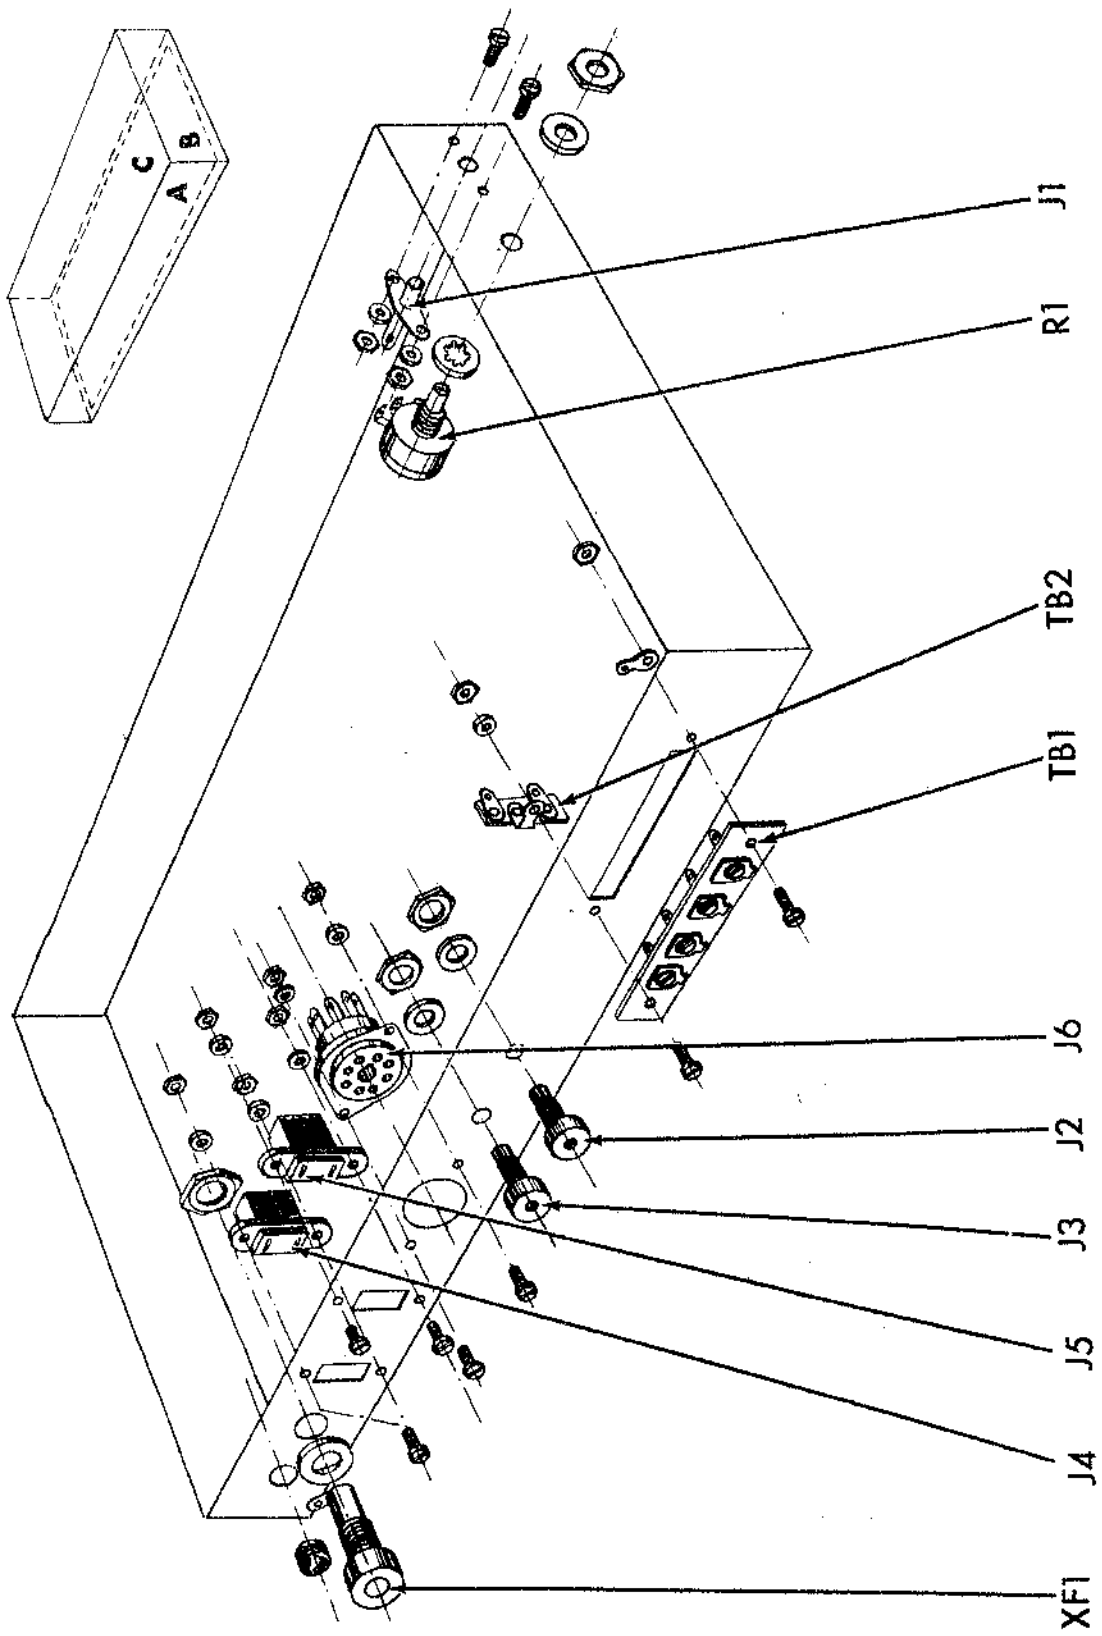

Fig. 1
Fig. 1 shows the chassis laying bottom down, in which position the interior would actually be hidden from view. For the purpose of showing the mounting procedures clearly, Fig. 1 has been drawn as if the chassis were transparent. The long and short sides of the chassis to which parts are mounted have been designated side A and side B respectively, and the top of the chassis has been designated side C (see insert drawing).
1. ( ) Fig. 1, side A. Mount the four post terminal board (SPEAKER CONNECTIONS) TBI on the outside of the apron. A two post terminal strip TB2 and a small ground lug are mounted on the inside as shown. Use two #6-32 X 1/4 screws, two #6 hex nuts and one #6 lockwasher.
2. ( ) Fig. 1, side A. Mount the two pin jacks (METER) J2, J3, with the hardware supplied on same. Remove the nut and the fibre washer from the threaded portion of the jack. Pass same thru hole provided and attach the fibre washer and hex nut on the inside of the chassis. The small shoulder on the fibre washers should seat itself into the mounting hole. If the assembly is properly made the lug on the jack will be insulated from the chassis.
3. ( ) Fig. 1, side A. Mount the octal socket, J6, (PREAMP POWER) as shown. Orient the socket so that the small notch (keyway) in the center of the bakelite section of the socket faces the meter jacks. This socket should be in-
4. ( ) Fig. 1, side A. Mount the convenience outlets J4, J5 (117VAC) inserting them from the inside of the chassis apron. To mount each outlet, use two of each of the following: #6-32 X 1/4 screws, #6 hex nuts and #6 lockwashers.
5. ( ) Fig. 1, side A. Mount the fuseholder XF1, as shown. Secure the fuse holder with the large rubber washer and the largest nut supplied with the kit.
6. ( ) Fig. 1, side A. Mount the 3/8" rubber grommet as shown. The groove around the rim of the grommet should fit over the rim of the hole. Squeeze grommet into oval shape to insert into hole, and work groove over the rim of the hole with a small screwdriver.
7. ( ) Fig. 1, side B. Mount the input jack, J1 on the inside of the chassis. Use two of each of the following: #6-32 X 1/4 screws, #6 hex nuts and the #6 lockwashers.
8. ( ) Fig. 1, side B. Mount the 1MΩ pot., P1, stock # 16016 (INPUT LEVEL ADJ.). Use one each of the following: 3/8-32 hex nut, 3/8 lockwasher and 3/8 flat washer.